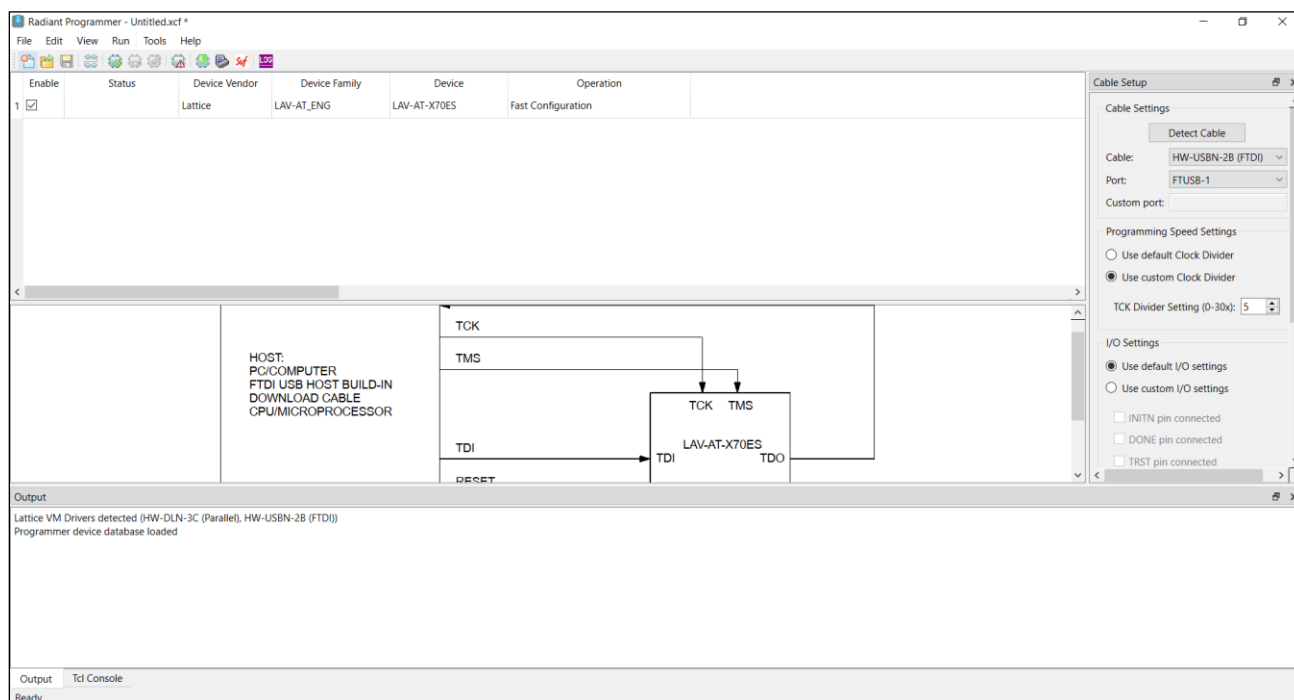

Figure 8.2. Radiant Programmer – Main Window
4. The Radiant Programmer main window opens listing the device as found in a scan if applicable (Figure 8.2).